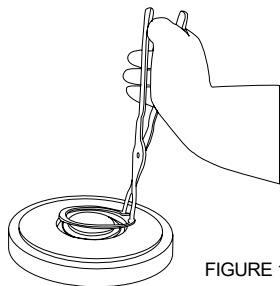

FIGURE 1
1. To replace the nose roller bearing, firstly remove circlip using a pair of straight circlip pliers (see Figure 1).